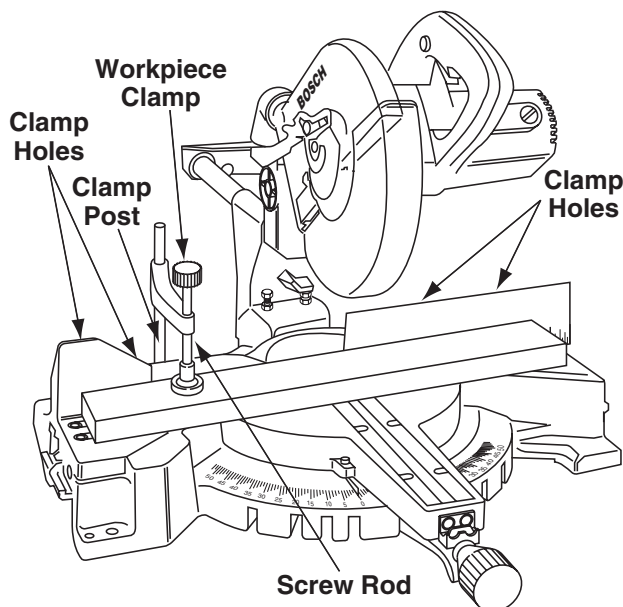

Figure 20. Workpiece Clamp
**Workpiece Clamp** - This clamp easily secures a workpiece in any of four (4) clamp holes behind the fence (Figure 20).